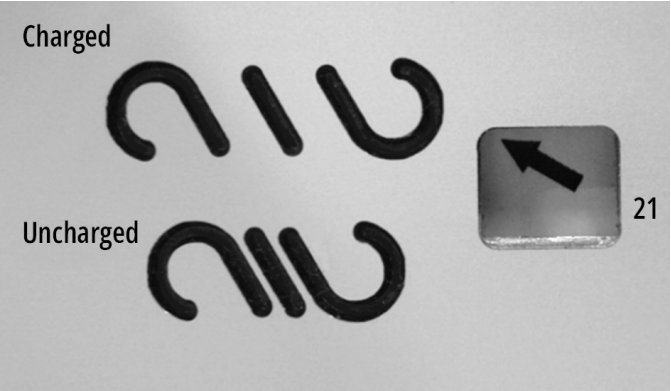

Figure 5-6: Closing spring status
When the closing spring is charged (see figure 5-6), only a little turn of the operating handle in the switch control point (6) is enough to switch ON the switch manually. Due to the fact the closing spring is already charged, no resistance will be felt when turning the operating handle until the very last moment.